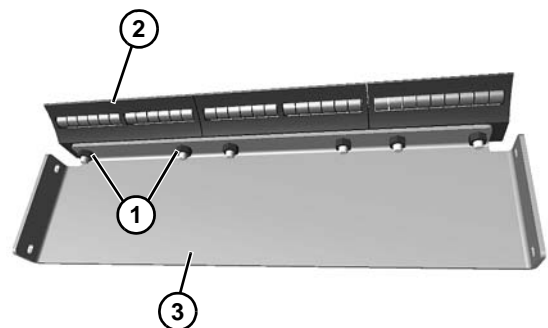

Figure 91
6. If necessary, remove two nuts (**Figure 91, item 1**) securing each transfer roller (**Figure 91, item 2**) on the idler tail assembly bracket (**Figure 91, item 3**). Replace and install as needed.